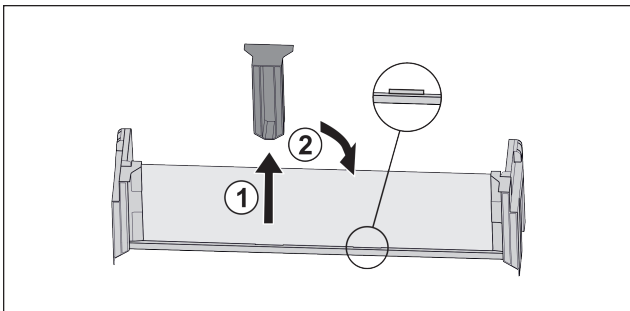

Fig. 69
- ▶ Pull off the middle holder Fig. 69 (1).
- ▶ Insert the middle holder in the second position Fig. 69 (2).